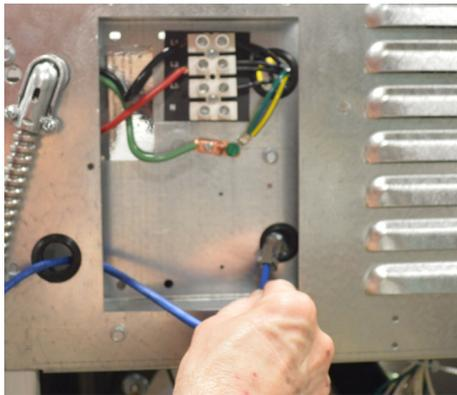

Figure 4
2. Run the cable through the lower left hole with a bushing (Figure 4).